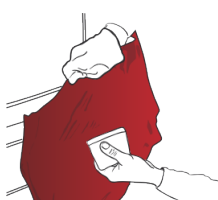

Figure 15
- › If necessary, lift the film, stretch it again, completely wrap the convex surface and apply it. (FIG. 15)